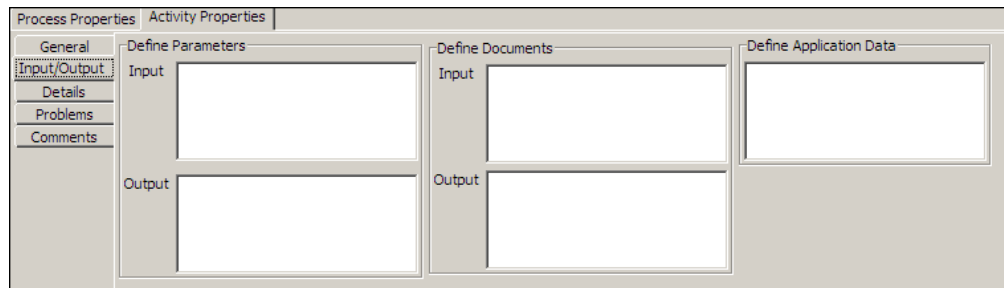

Figure 15: Input/Output Properties
1. Click **Input/Output** tab to display all input and output properties for the selected element (see Figure 15).